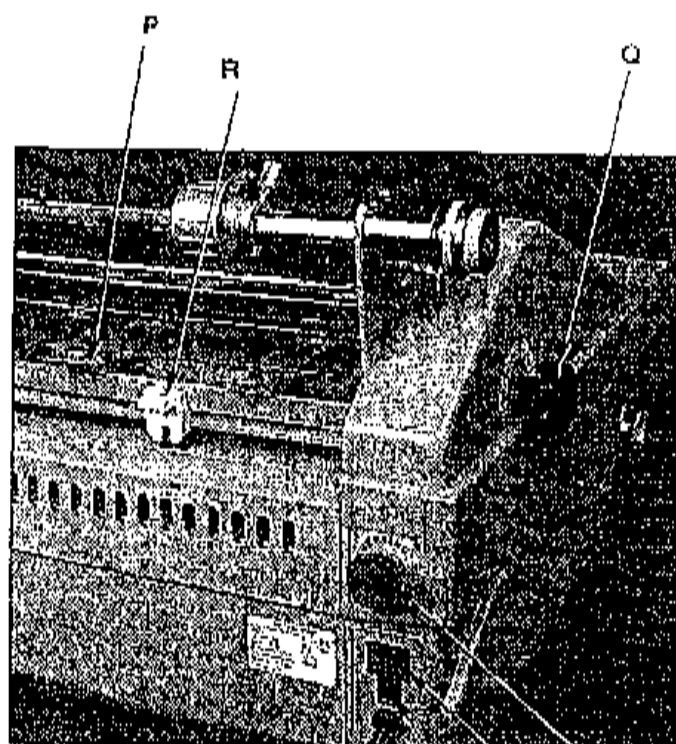

Fig. 1
A. POWER SWITCH: Fig. 1. Located at the back of the machine applies power to the laminator. The LCD display panel will illuminate when position marked "I" is pushed. The off position, marked "O", removes power from the laminator.
K. CIRCUIT BREAKER: Electrical safety device, located on the back of the laminator near the power cord, can be reset by the operator if tripped (Figure 1).
K. INTERRUOTTORE AUTOMATICO: Se si è disinnestato, questo dispositivo elettrico di protezione, posto sul retro del laminatore accanto al cavo di alimentazione, può essere ripristinato dall'operatore (Figure 1).
The slitters can be adjusted to slit the sides of the web as the product being laminated exits the unit. Three slitters enable the operator to run two up and slit both sides of each item, (Figure 1).
ENGAGEMENT KNOB: Located on the left side engages and disengages the side slitters, (Figure 1).
P. SIDE SLITTER: Used to cut off the laminated web, (Figure 1).
R. REAR SLITTER: Used to cut off the laminated web, (Figure 1).
T. EMERGENCY STOP: Used to instantly stop the motor in the event of an emergency. If engaged, twist the knob clockwise to release, (Figure 1).